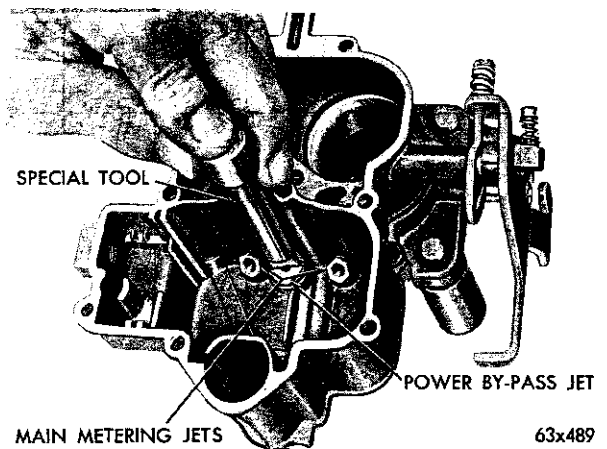

Fig. 7—Removing or Installing the Power By-Pass Jet
(5) Using Tool 73598, remove the power by-pass jet and gaskets, as shown in Figure 7.
(3) Install the power by-pass jet and new gasket. Tighten securely, using Tool 73598 (Fig. 7).